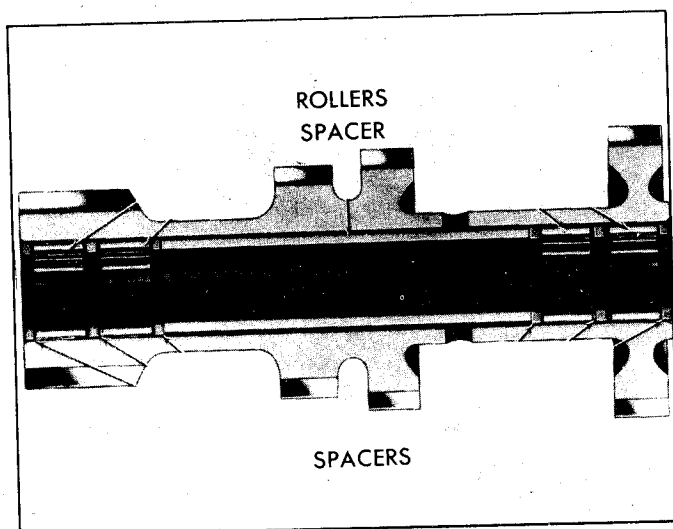

Fig. 7B-19K-Countergear Cross Section
5. Attach a dial indicator as shown in Fig. 7B-20K and check end play of the counter gear. If end play is greater than .025", a new thrust washers must be installed.